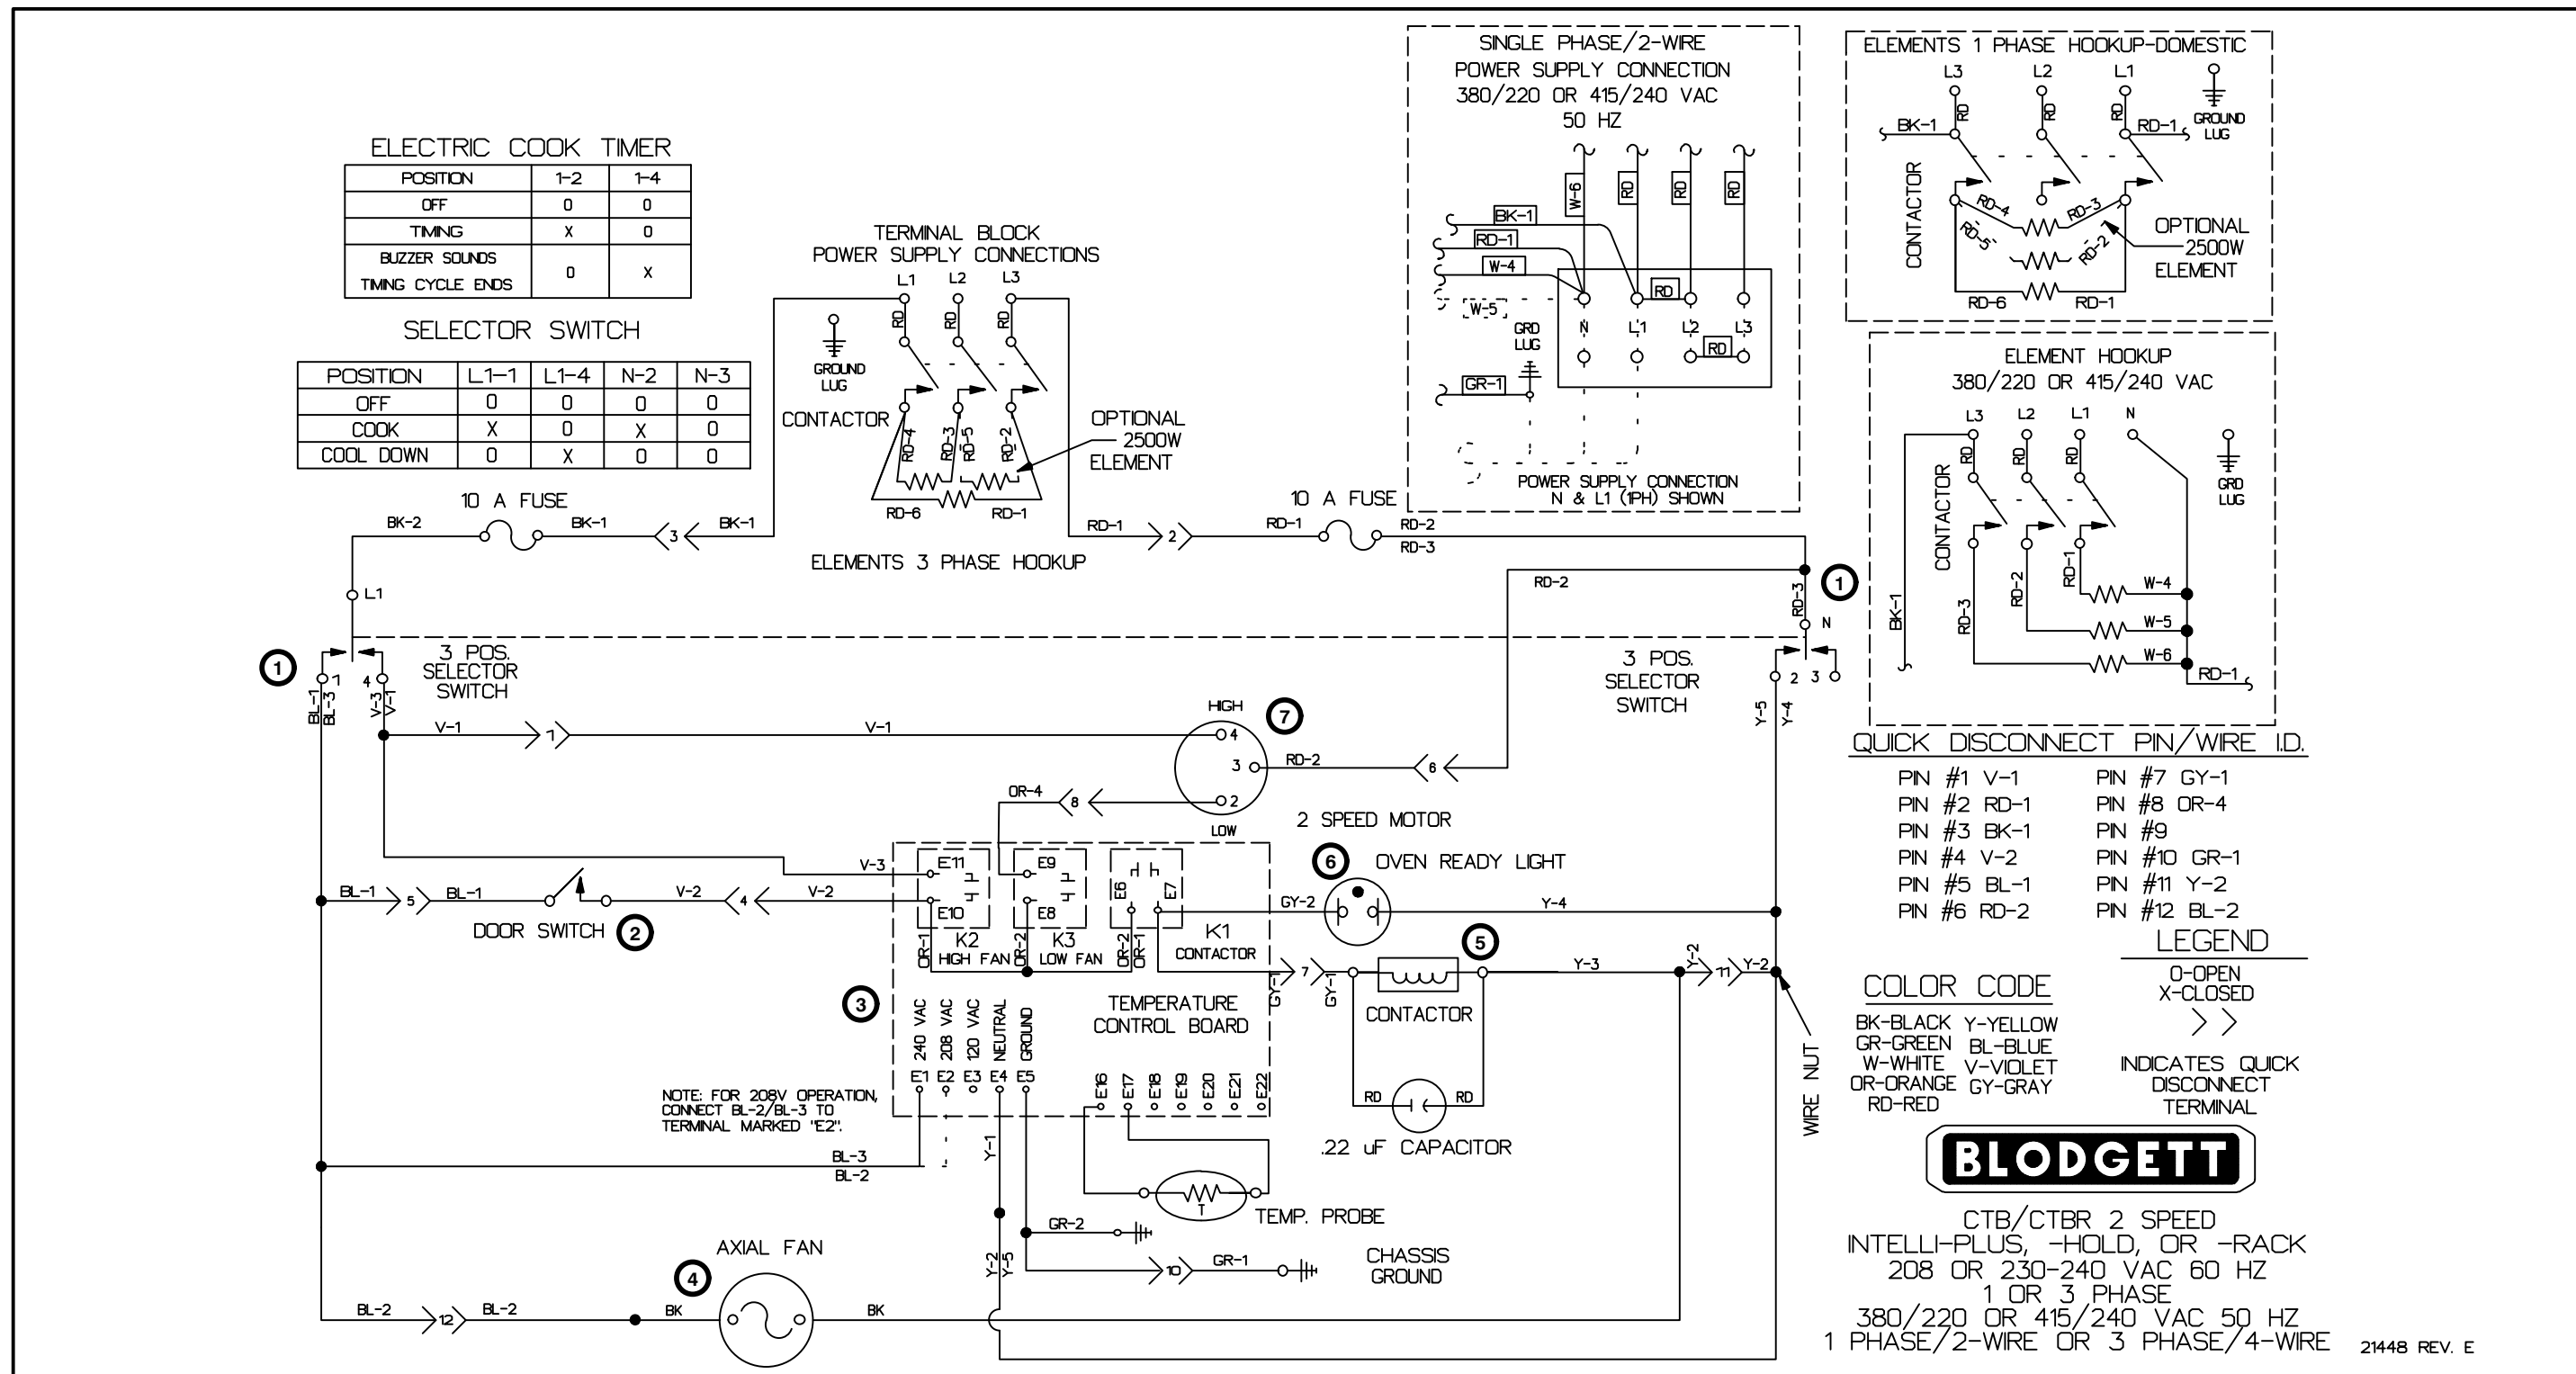

FIGURE 10
*NOTE: Refer to FIGURE 10 page 3–10 for component locations.*